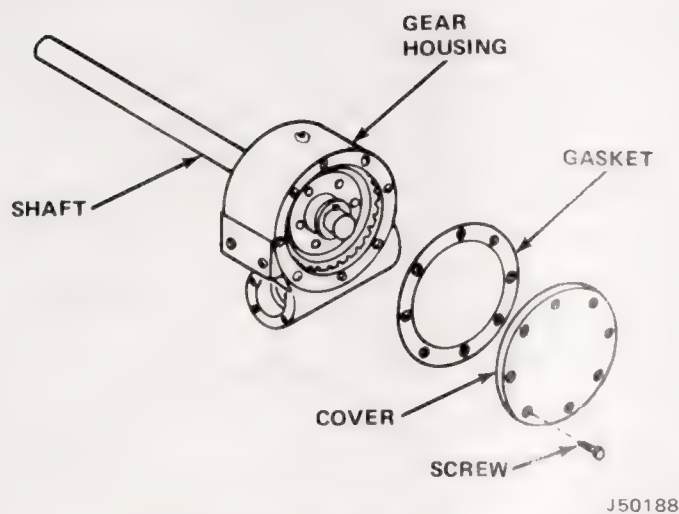

Fig. 5-24 Gear Cover and Housing
(18) Turn gear housing over and remove capscrews from cover (fig. 5-24).
(10) Insert drum shaft with gear through housing (fig. 5-24).
(11) Mount gasket onto cover and position cover on housing: